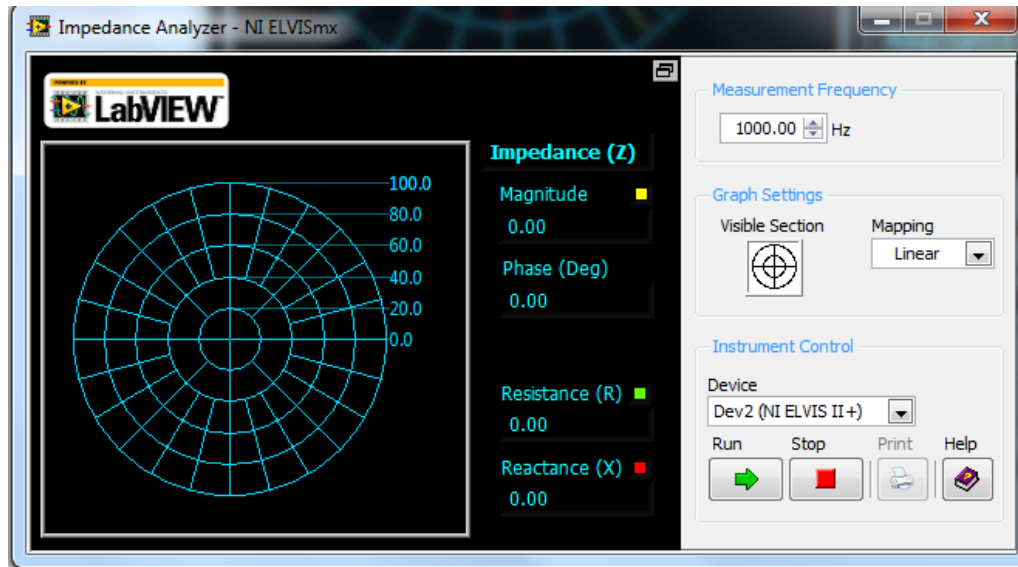

Figure 4: Front Panel of Impedance Analyzer on NI ELVIS II
2. Remove the voltage source V_{in} . Connect A to DUT+ and Connect B to DUT- of DMM of NI ELVIS II. Setup the switching frequency to 1 kHz on the Impedance Analyzer as shown in Figure 4. Press **run** button. The impedance including the resistance is displayed on the window.
3. Similarly, remove the load resistor R_L . Connect C to DUT+ and Connect D to DUT- of DMM of NI ELVIS II. Setup the switching frequency to 1 kHz on the Impedance Analyzer as shown in Figure 4. Press **run** button.